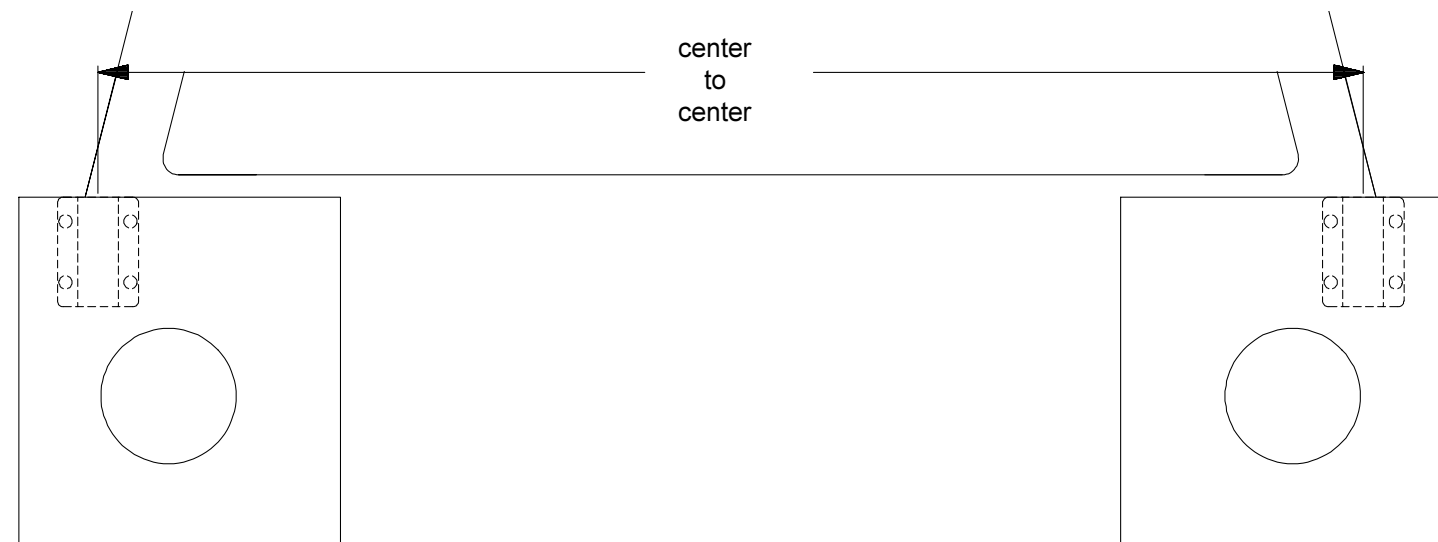

Figure 12. Crossmember Length
4. Crossmembers - Measure center to center of the Leg Supports (see Figure 12.). Cut all Crossmembers 1/2" less than this length.